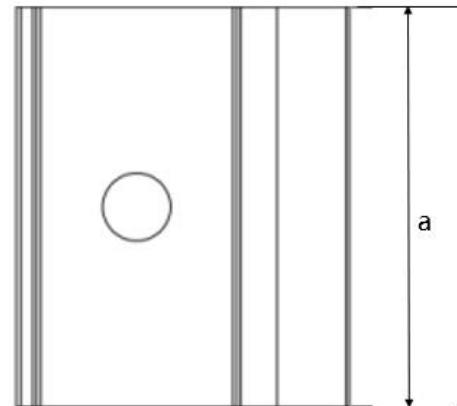
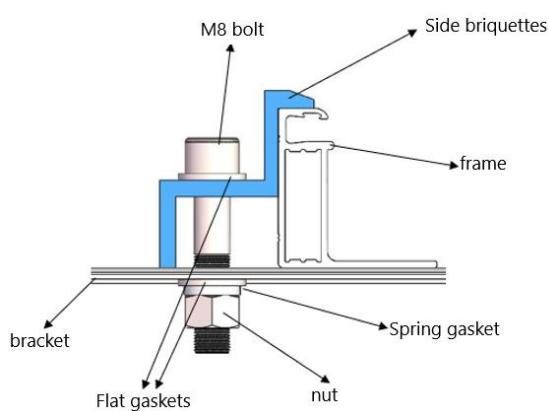

Fig. 7 Top view of fringe clamp
Fig. 11 Installation schematic diagram of fringe clamp
- ③ The top surface of the rail contacted with module frame should be equipped with grooves compatible with an M8 bolt.
- ④ If the grooves are not provided, holes of a suitable diameter may need to be drilled to allow bolts attaching to the rail at the same locations as mentioned above.
- ⑤ Ensure that the mounting sequence of each clamp is in the order of flat washer, spring washer and nut.
- ⑥ Figures 7~10 show the schematic diagram of the clamp, while Figures 11 and 12 show the installation schematic diagram of the clamp. The dimensions of the clamp are as follows: Length(a) $\geq 50$ mm, with a thickness of at least 4mm, and an overlap with the frame (d)  $\geq 10$ mm; or Length(a) $\geq 60$ mm, with a thickness of at least 3mm, and an overlap with the frame (d)  $\geq 8$ mm. The clamp section can be changed under the premise of ensuring reliable installation, and it must not extend beyond the frame to avoid contact with the glass.
- ⑦ Modules sized 2384\*1303mm and above are only suitable for a clamp dimension of length(a)  $\geq 60$ mm.
- ⑧ The tightening torque is suggested to be 17~23N•m for Class 8.8 screw and bolts.